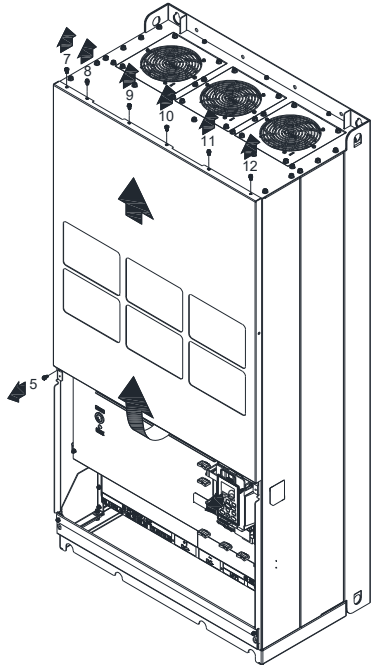

Figure 2
- 2. Loosen the screw 5-12 and remove the top cover (figure 2). Screw torque: 24-26 kg-cm / (20.8-22.6 lb-in.) / (2.4-2.5 Nm)